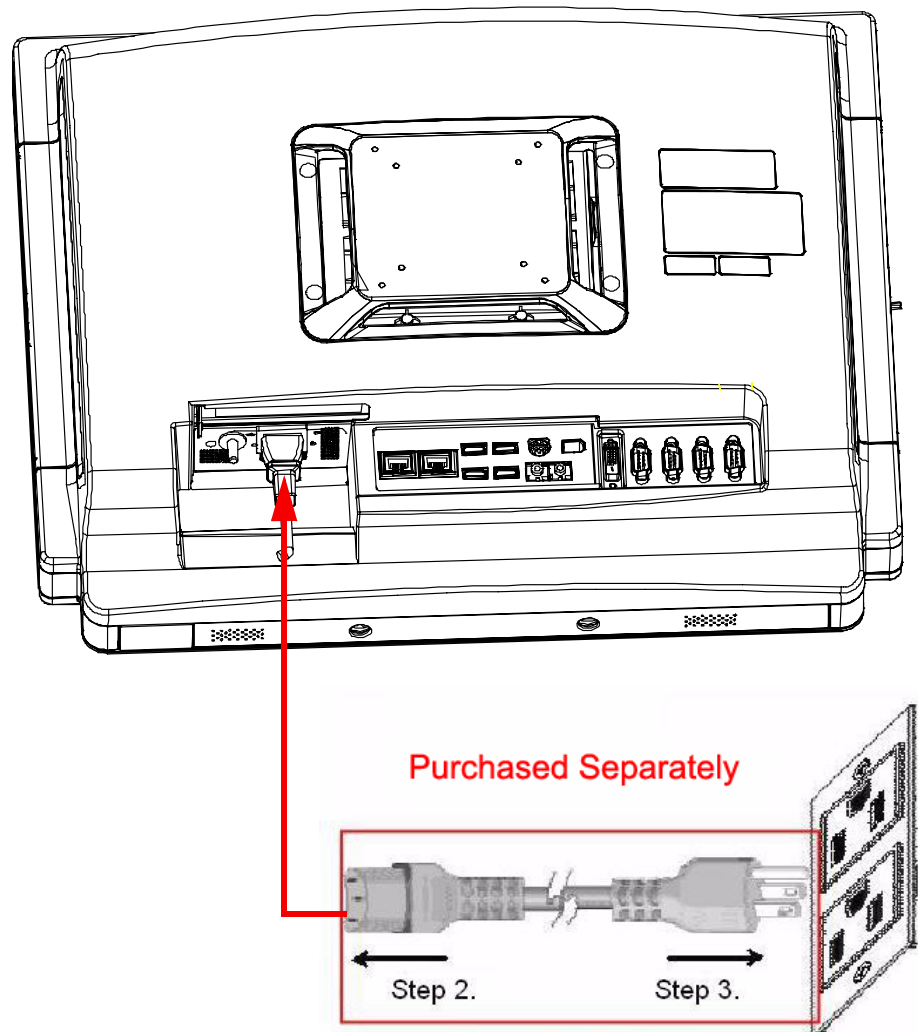

Figure 2.7 Connecting the power cord
3. Connect the 3-pin male plug of the power cord to an electrical outlet. (See Figure 2.7)
3. Attach the grounding cable plug with the POC-227 equipotential terminal (See Figure 2.7)